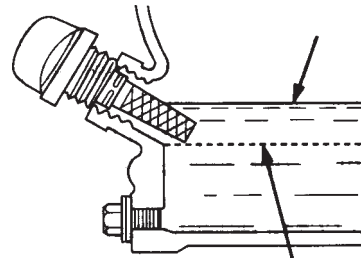

Figure 17. Engine Oil Dipstick (Oil Level)
4. If the oil level is low (Figure 17), fill to the edge of the oil filler hole with the recommended oil type (Table 3). Maximum oil capacity is 1.16 US Qt. (1.1 liters).